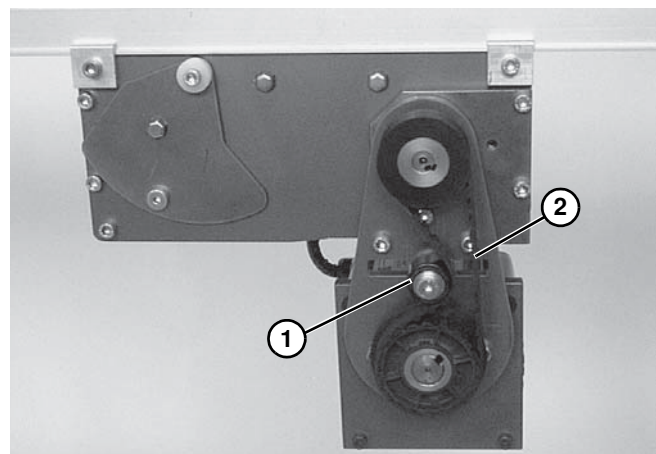

Figure 46
2. Loosen belt tensioner (**Figure 46, item 1**) then remove timing belt (**Figure 46, item 2**).